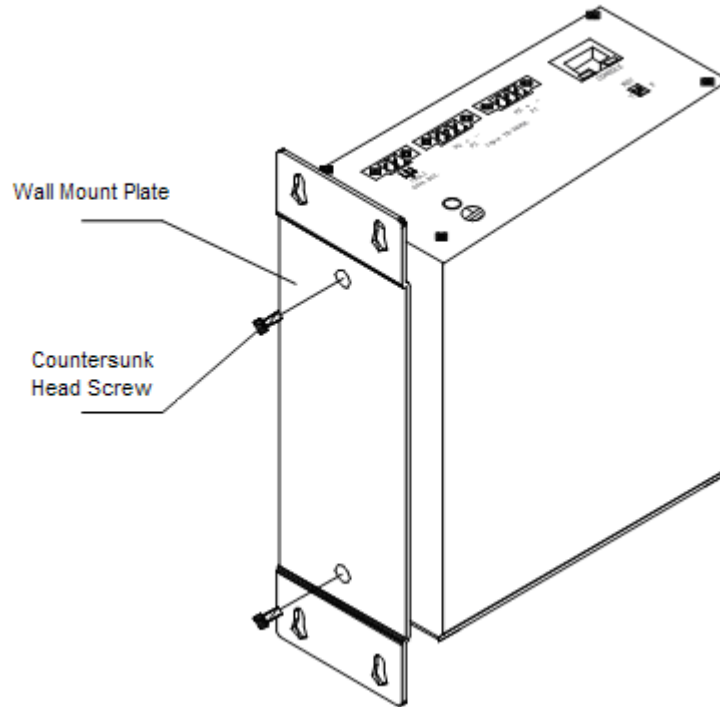

Figure 2-4 Install Wall Mounting Plate
2. Take out the wall mounting board and its mounting screws (M3×6 cross recessed countersunk flat head screws) from the packing box. Mount the board on the position where the DIN rail kit is. Ensure the mounting direction of the plate is as shown in the Figure 2-4.